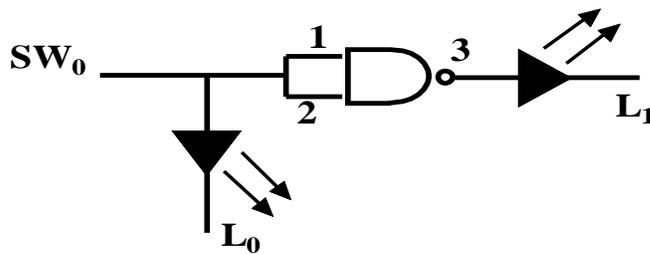

Fig. 1.2
- A2. Connect one of the four gates in the 7400 IC as shown in Fig. 1.2 and record your data in table 2A. The input will come from data switch SW_0 . You will monitor the input and output states with L_0 and L_1 LED displays.